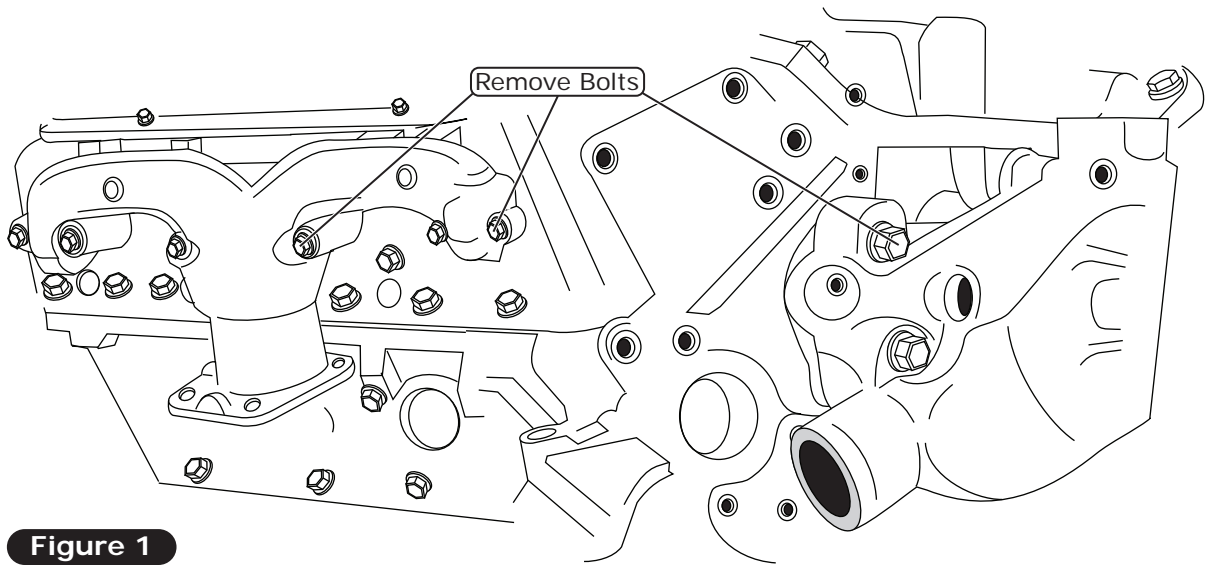

Figure 1
1. Remove the top water pump mounting bolt on the passenger side (discard). (See Figure 1, below).
2. Remove the 1st and 3rd manifold bolts on the passenger side (discard). (See Figure 1, below).